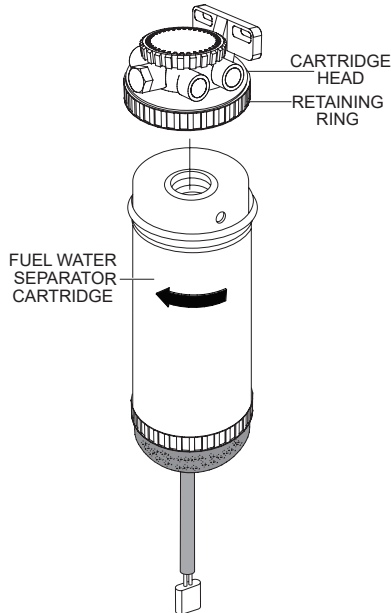

**Figure 64. Fuel Water Separator Sediment Bowl**
1. Remove the **sediment bowl** (Figure 64) from the **fuel water separator cartridge**.